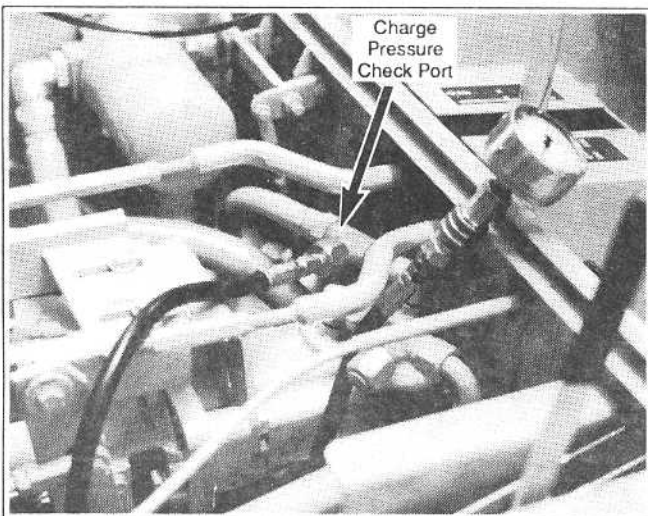

Figure 5-1
1. With the machine warm, shut engine off and install a 0-500 PSI (0-34.5 bar) gauge at the test port. a 7/8 inch JIC female adapter is required. (See figure 5-1)